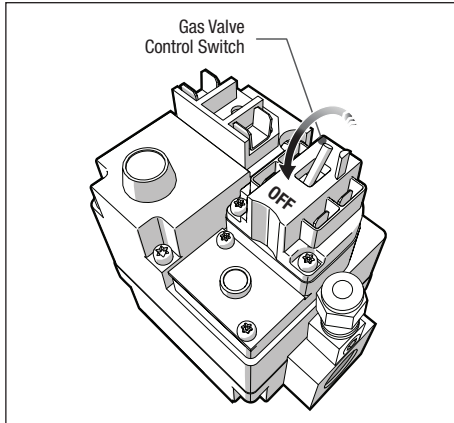

Figure 32. Gas Valve
- Toggle gas control switch to OFF position. See Figure 32.
- Wait five (5) minutes to clear out any gas, then smell for gas, including near the floor. IF YOU SMELL GAS, STOP! Follow instructions in **What To Do If You Smell Gas** (see Section 1.1, *Safety Instructions*).